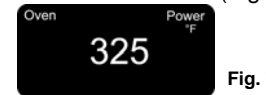

Fig. 7
- Press the oven button one (1) time to select the "Bake" feature or two (2) times for "(Convection) Fan Baking".
- Press the "Increase/Decrease" button to change the temperature to the desired temperature for the roast. (Fig. 7)